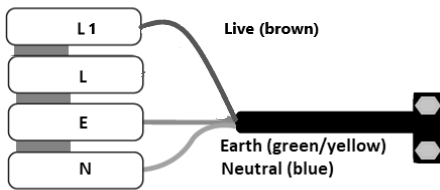
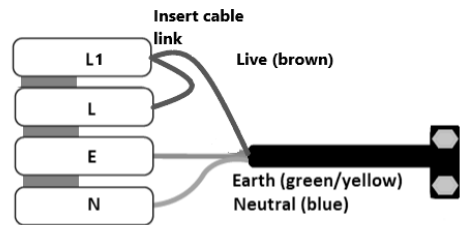
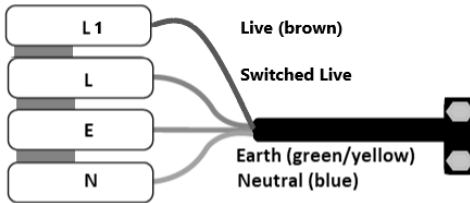

Fig. 2
Fig. 3
Fig. 4
- Wire for non-maintained operation (Fig. 2), maintained operation (Fig. 3) or switched-maintained operation (Fig. 4) as required